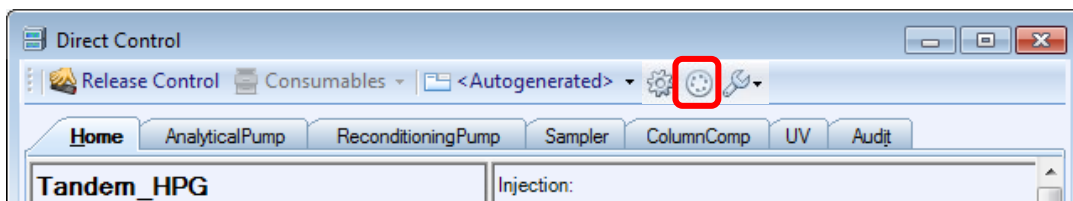

Figure 9: Start Fluidic Configuration Wizard (icon labeled in red)
- a. Select the corresponding **Capillary Kit**, in this case the Vanquish Tandem LC, on page 1 (Figure 9).
- b. Check the correct pump assignment for the **Analytical-** and the **Reconditioning Pump** on page 2 (Figure 9).